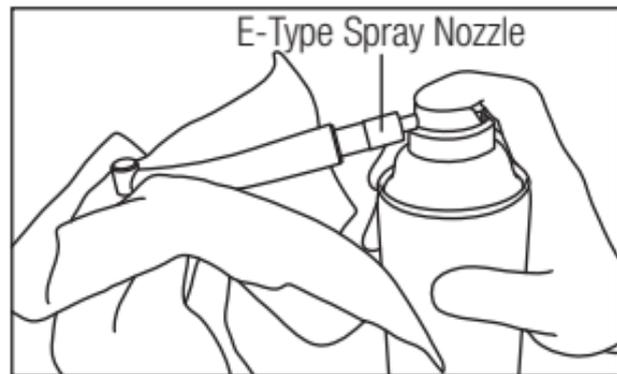

Fig. 22
- 3) Hold the handpiece, and spray for 2 or 3 seconds until oil comes out of the handpiece head. (Fig. 22)